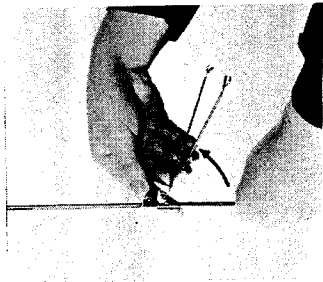

Fig. 10
- d. Turn out the rear yarn guide as far as it will go. (See Fig. 10)